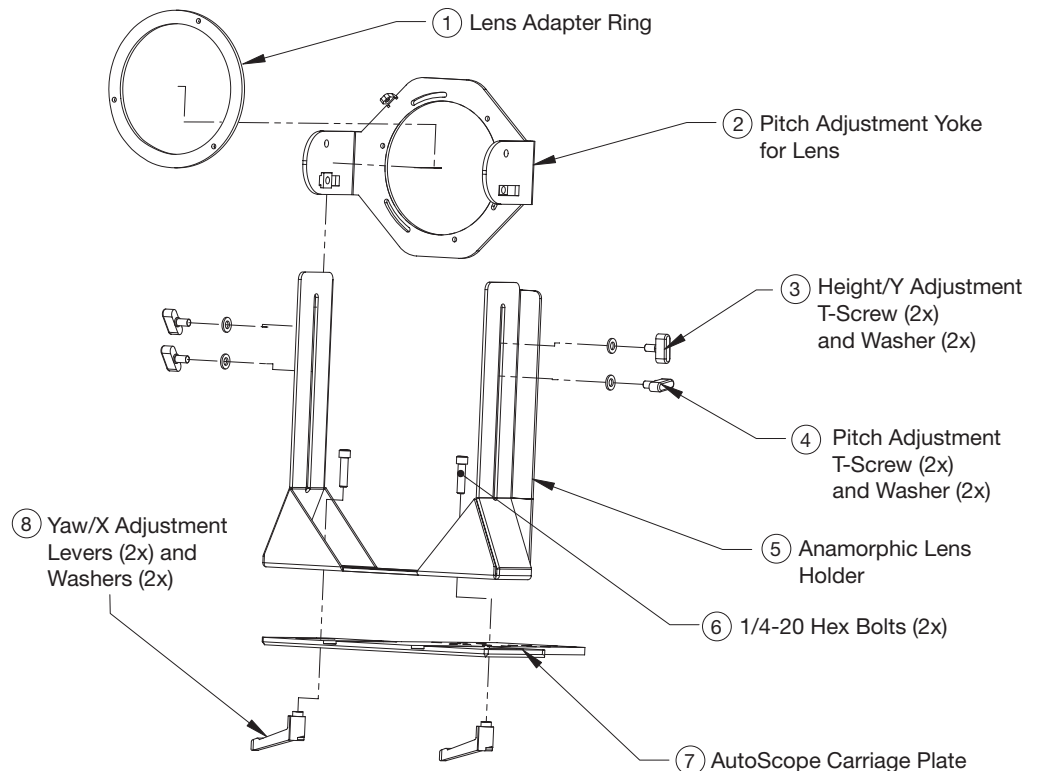

Figure 3-18. VX-6000d Anamorphic Lens Mounting Assembly - Exploded View
The VX-6000d Anamorphic lens mount kit consists of everything shown in Figure 3-18. Some components shipped with your projector may differ slightly from what is shown in these instructions. If any items are missing or damaged, please contact your Runco dealer or Runco Customer Service at (800) 23-RUNCO.